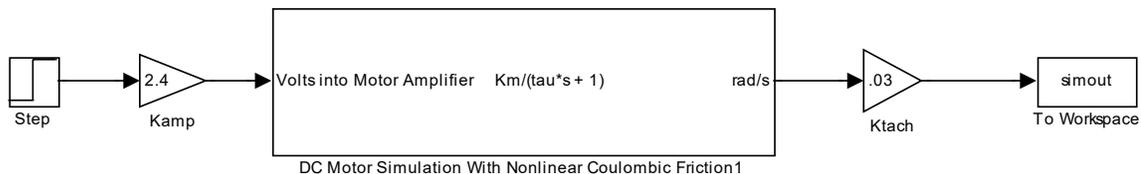

Figure 2 - Simulink Model for DC Motor Simulation
Start by simulating the motor transfer function found in the post lab questions of Lab 2. Use Figure 2 and the steps below to build a Simulink simulation of the motor.
- 12) Now connect the boxes so they match Figure 2. To connect them use the small arrows on the edges of each block. Left click on them and drag the connection to the next block.
- 13) Double click on each box and change the values so they match Figure 2 and these items below:
The goal of this section will be to estimate the values for  $K_m$  and  $\tau_m$  by analyzing the response of the motor to a step input voltage. You will be implementing the block diagram in Figure 2 with your actual motor. A step function will be input to the motor, and the signal from the tachometer will be observed. Remember that the voltage of the tachometer is proportional to the angular velocity of the motor. You will also use this step response data to estimate the coulomb friction acting on the motor.